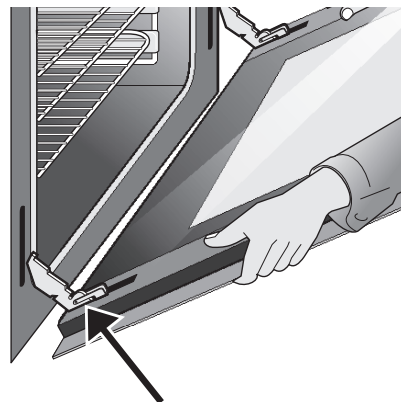

Figure 40: Carefully remove door grasping both sides and pulling hinges from door frame
3. Firmly grasp both sides of oven door along the door sides (Do not use the oven door handle).(Figure 40)
4. Before completing this step, be prepared to hold the whole weight of the door while grasping the sides of the oven door with both hands. Hold midway down the oven door sides. Close the oven door to about 4 inches from the door frame. The oven door should release from the frame on its own. (Figure 40).
2. Position the angle of the door to the door removal angle and carefully insert the door hinge arms fully and evenly into the door hinge slots. Carefully let the weight of the door transfer from your hands so that the oven now supports the oven door. (Figure 40).